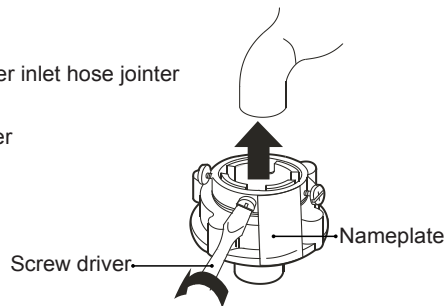
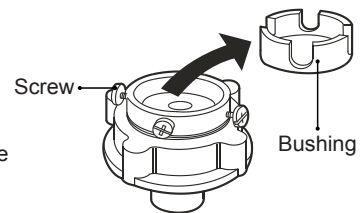

Figure 2
Figure 3
3. Loosen the screw till the water faucet can be accessed. Put the jointer of the water inlet hose on the faucet. See to Figure 2. (If the faucet is too large and the jointer can not be set on the water faucet, please loosen the four screws and take out the bushing in the jointer. The front end of the faucet must be smooth, otherwise it may cause leakage. See to Figure 3.)